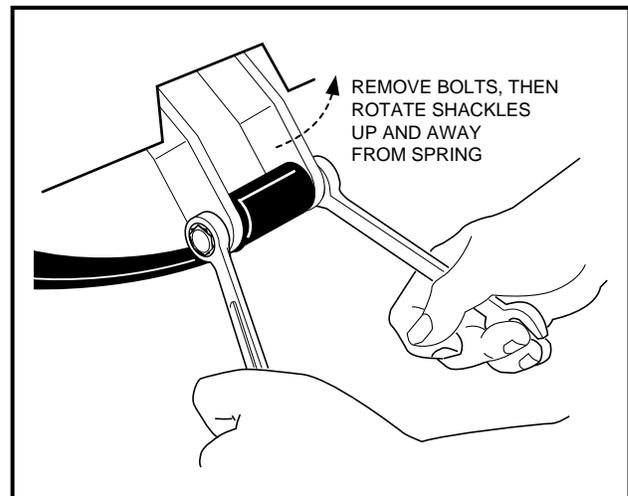

Figure 16-11 Shackles
7. With a floor jack supporting the transaxle, remove lower spring shackle nuts and bolts. Position shackles so they are clear of springs (**Figure 16-11, Page 16-7**).